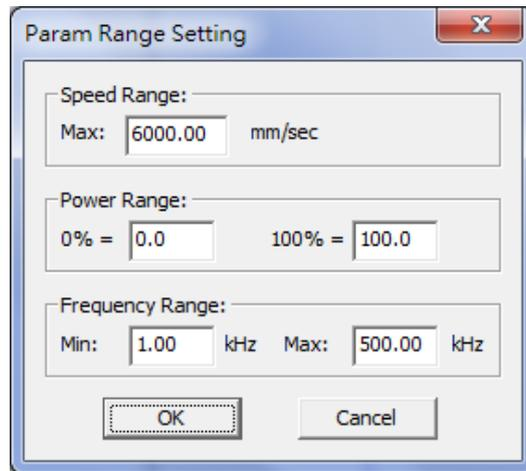

Fig. 3.1.09
**Param Range Setting:** Set the range of speed, power and frequency, see Fig.3.1.09.